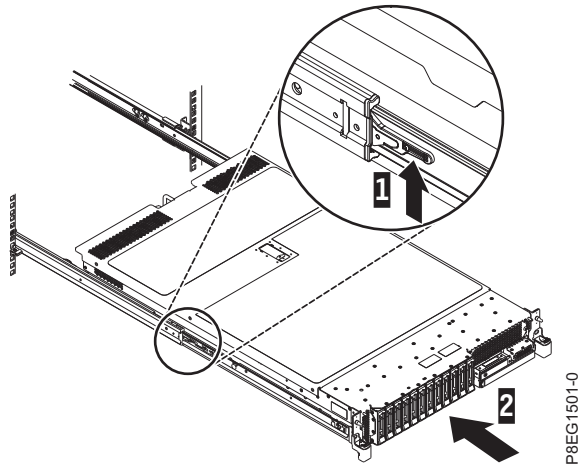

Figure 8. Lift the release latches and push the server into the rack
3. Lift the blue release latches (1) on the slide rails and push the server (2) all the way into the rack until it clicks into place. For details, see Figure 8.